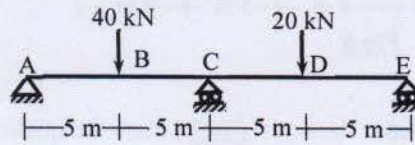

Fig.4
4. Using Force Method, calculate the support reactions of the beam shown in **Fig.4** [14]